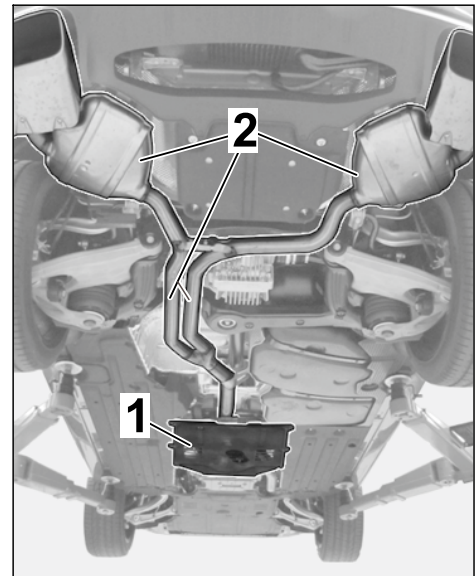

Figure 6
- 1.3.1 Remove tunnel cover on –center–underbody (⇒ *Figure 6*, ⇒ *Workshop Manual '519319 Removing and installing cover for centre underbody'*).